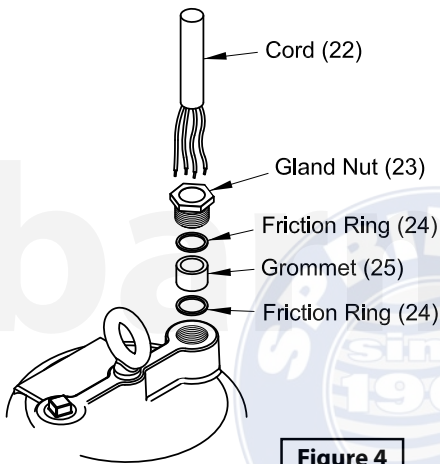

Figure 4
8. **On models 3BSE-SS (1.5 - 2 HP, 3 Ph),** Place gland nut (23), one friction ring (24), grommet (25) and one friction ring (24) onto cord (22) and slide cord through hole in motor housing (4) (See Figure 4). Make wire connections per Figure 5.
9. **On models 3BSE-SS (1.5 - 2 HP, 1 Ph) and 3BSE-SS (3 HP),** place all motor leads above motor. Place o-ring (18) on seal plate (3) and lower motor housing (4) onto seal plate (3).
10. Place socket head screws (17) through seal plate into motor housing and torque to 60 inch pounds.